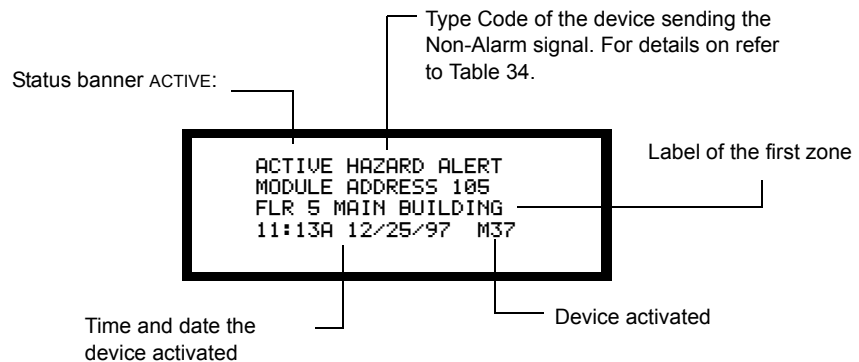

Figure 106 Sample Display for an Non-Alarm Condition
- Displays a status banner of ACTIVE along with specific information about the activated device as shown in Figure 106.
When a Non-Alarm signal occurs, the control panel changes the status banner to ACTIVE. Figure 106 shows a sample LCD display for a control panel with a Non-Alarm condition.